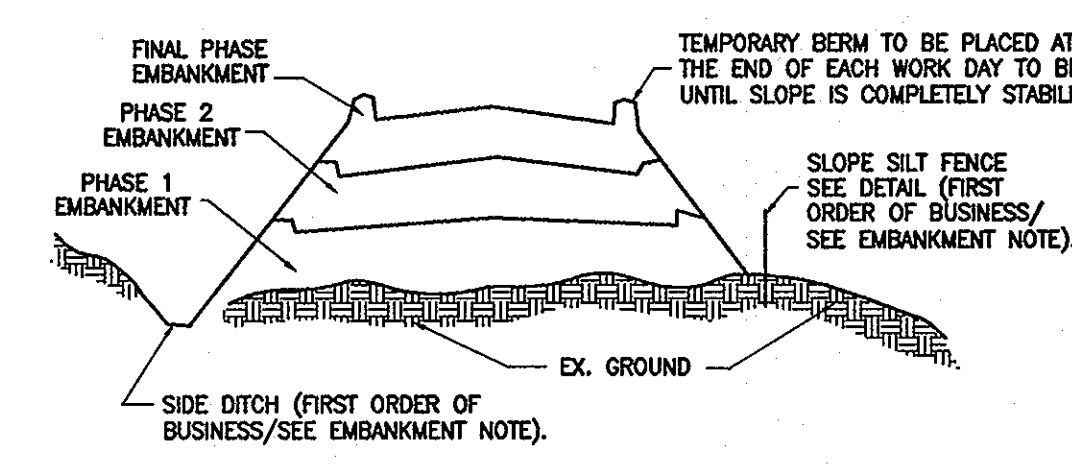

Figure 5 Incremental Stabilization - Embankment Fill Comply with MD 378 Specifications.
- Construction sequence: Refer to Figure 5 (below):
- Select one or more of the species or mixtures listed in Table 26 for the appropriate Plant Hardiness Zone (from Figure 5) and enter them in the Temporary Seeding Summary below, along with application rates, seeding dates and seeding depths. If this Summary is not put on the plans and completed, then Table 26 must be put on the plans.
- Select one or more of the species or mixtures listed in Table 25 for the appropriate Plant Hardiness Zone (from Figure 5) and enter them in the Permanent Seed Summary below, along with application rates and seeding dates. Seeding depths can be estimated using Table 26. If this Summary is not put on the construction plans and completed, then Table 25 must be put on the plans. Additional planting specifications for exceptional sites such as shorelines, streambanks, or dunes or for special purposes such as wildlife or athletic treatment may be found in USDA-SCS Technical Field Office Field, Section 342 - Critical Area Planting. For special lawn maintenance areas, see Section IV, Sod and V Turfgrass.